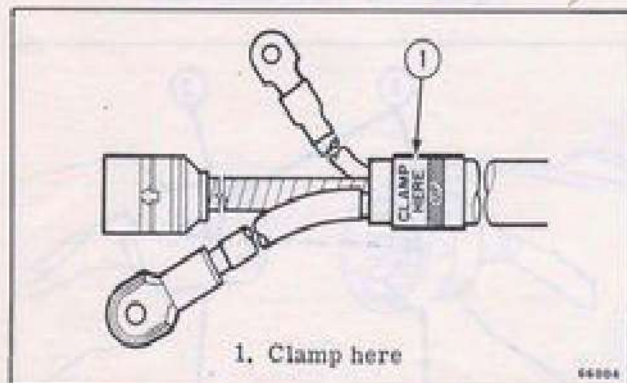

Figure 8-26. Cable Clamp
e. Insert electrical cable into opening in lower motor cover and clamp. Position clamp in lower motor cover and secure with two screws. Notice that instrument cable has two locating bands. Make sure clamp is located on proper band. See Figure 8-26.